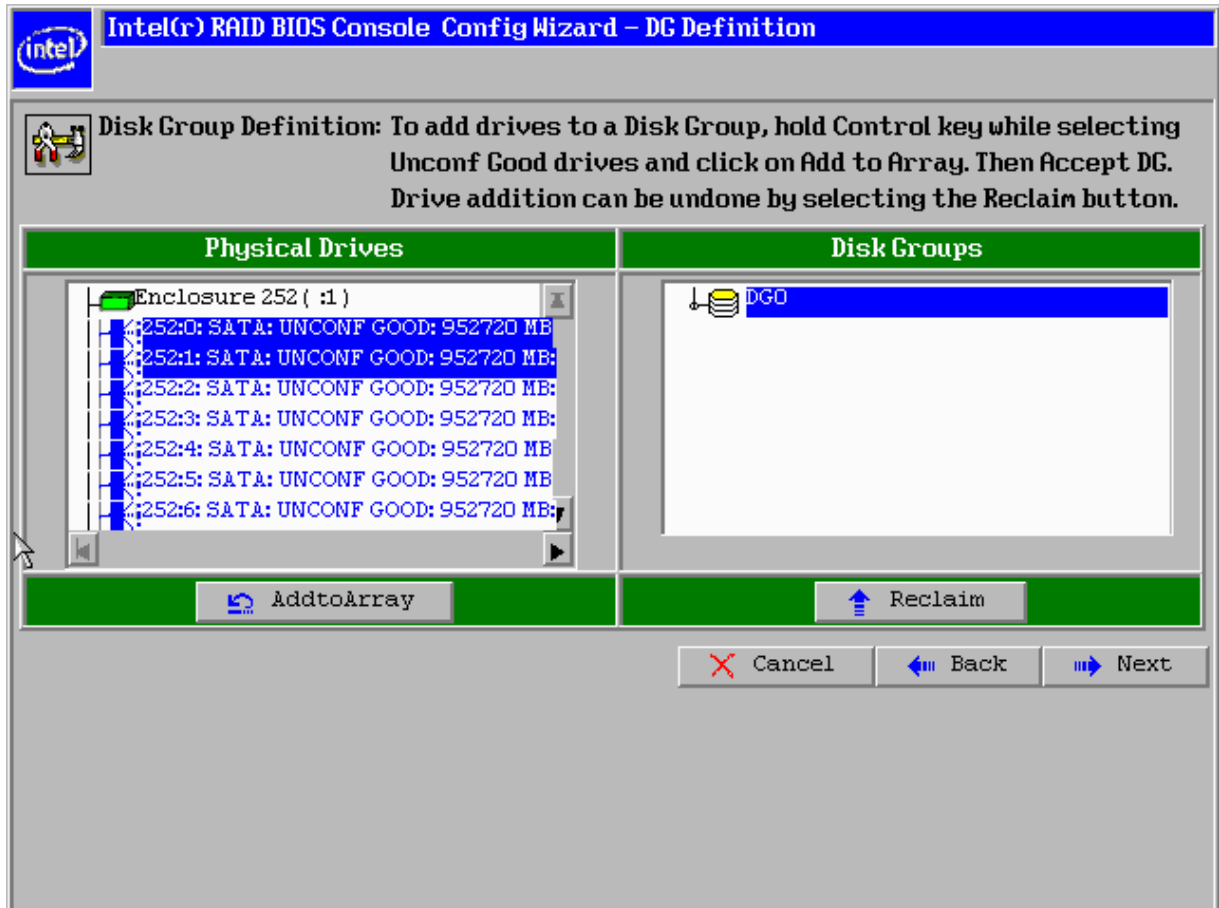
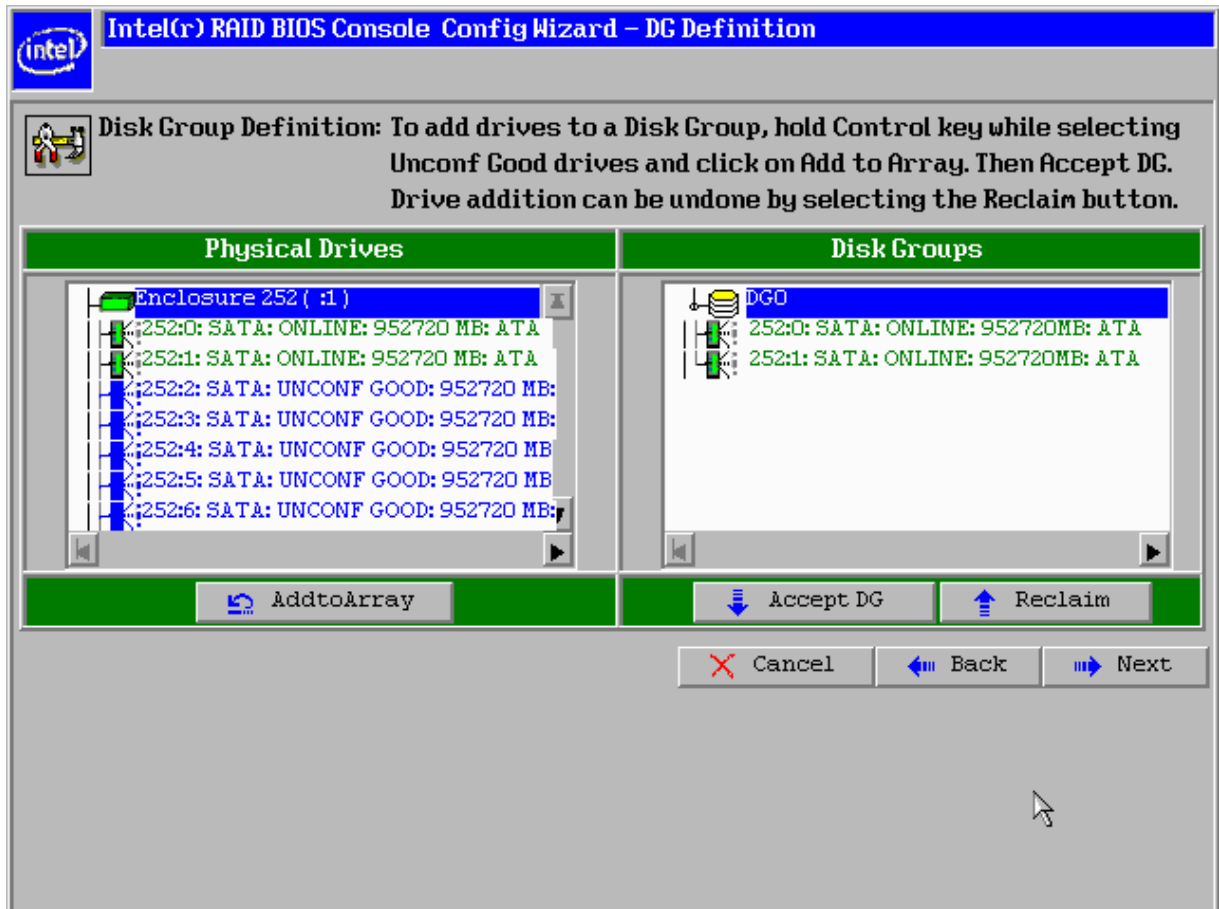

Figure 13. DG Definition Screen – Selecting Devices
Figure 14. DG Definition Screen – Device added
8. Hold down the <Ctrl> key and using the mouse to click on two unconfigured good hard drives in the Physical Drives panel on the left (see Figure 13), and click **AddtoArray** to move the drives to a proposed drive group configuration in the Disk Groups panel on the right (see Figure 14).